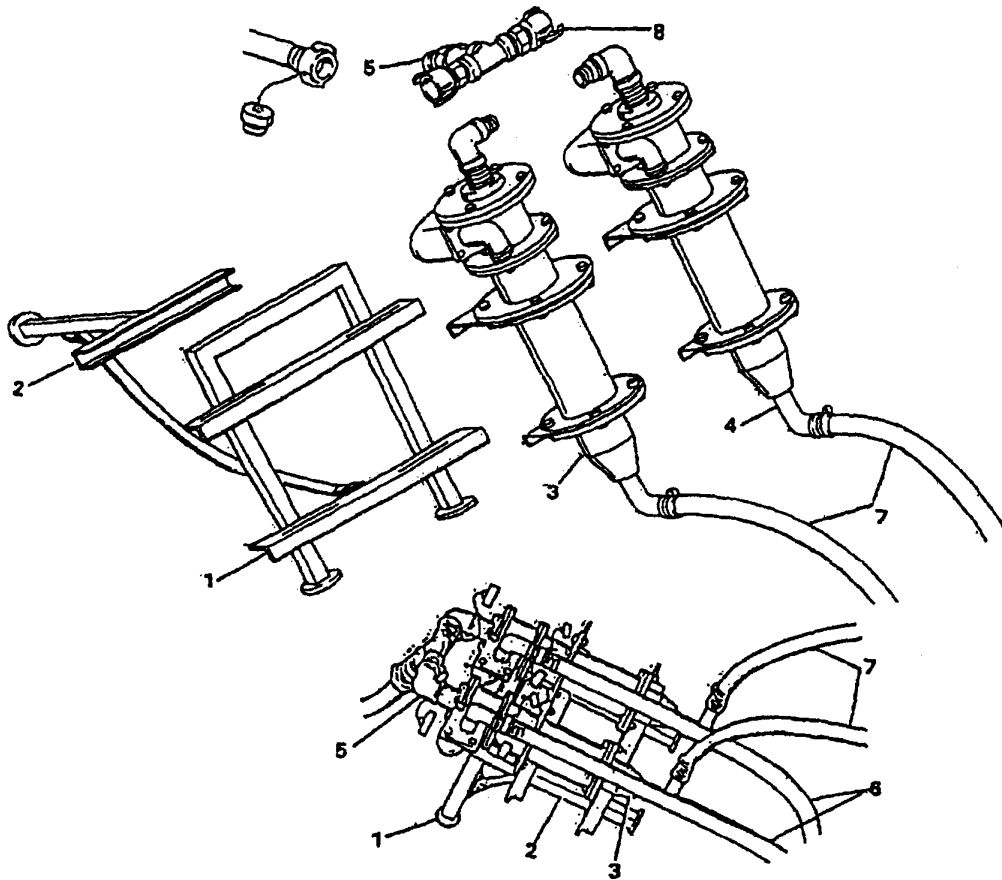

Figure 2-29. Set-Up Cyclone Separator (Sheet 1 of 2)
- (11) Connect or disconnect remaining suction hose sections (3) as required to obtain proper length. Connect raw water suction hose (3) to raw water pump (1).
- (12) Install pipe section (12 for Model WTA-060 or 13 for Model ROWPU-1) to raw water pump (1) discharge.
- (13) Connect raw water pump discharge hoses (6) to the pipe section (12 for Model WTA-060 or 13 for Model ROWPU-1) and lay out to location selected for the two separators (7) for Model WTA-060 or the single separator (14) installed on the trailer for Model ROWPU-1.
- (14) Uncoil and connect electrical cable sections (9) from raw water pump to raw water pump power outlet (10).
(15) Setup the cyclone separator as shown in Figure 2-29.